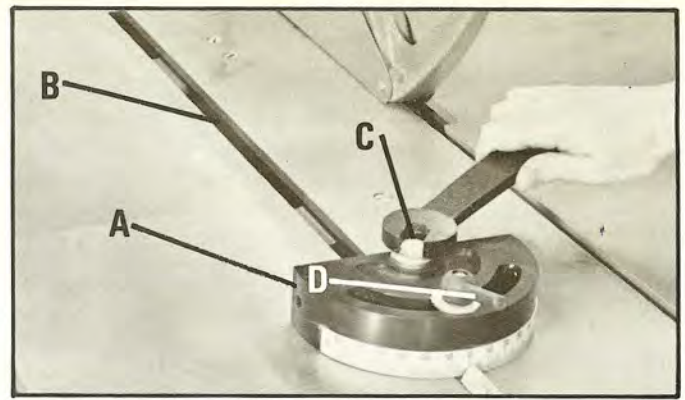

Fig. 40
The miter gage (A) Fig. 40, can be positioned anywhere along slot (B) and is clamped to the sliding table by tightening hex head screw (C).
The miter gage body (A) Fig. 40, can be adjusted right or left up to 45 degrees by loosening locking lever (D).